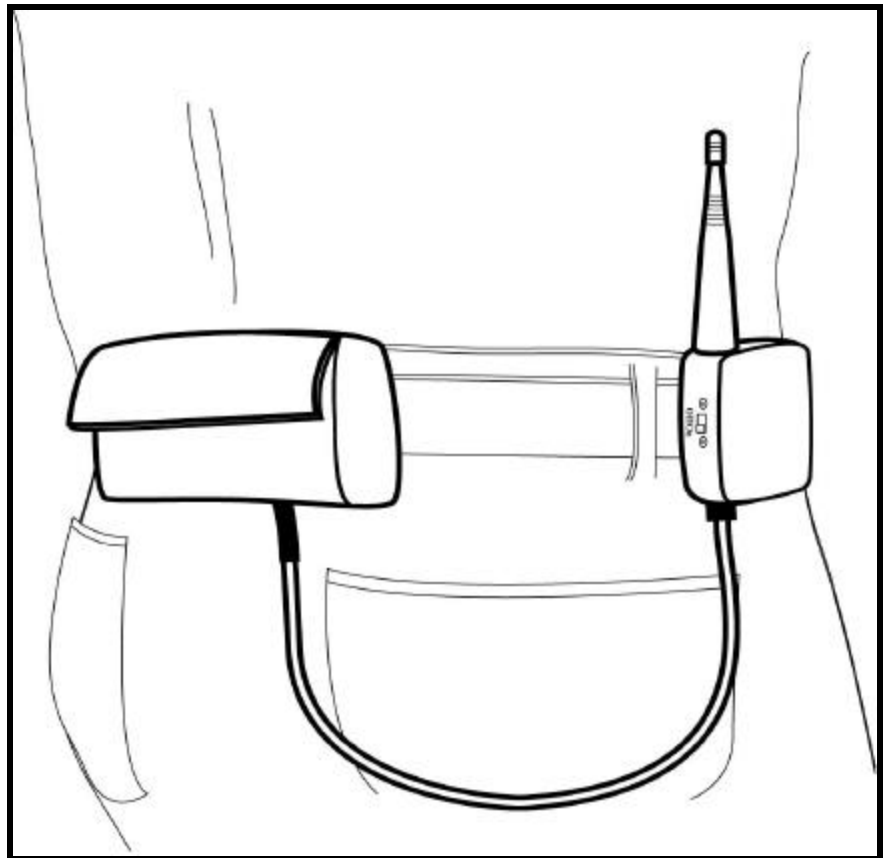

Figure 3.
- d. Thread the pouch through the subject’s belt loop and position the belt loop on the middle of the back. (See Figure 3. below)
- f. Clip the RF Remote Transmitter to a comfortable area on the side of the body. (See Figure 3. below)